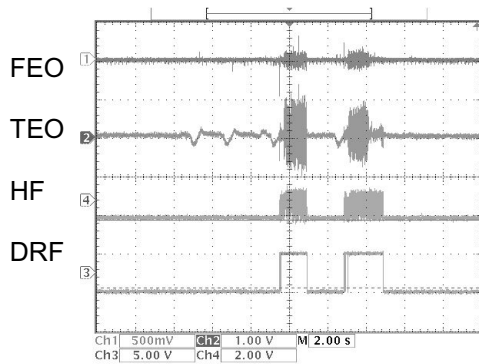

Fig. 2 DISC discrimination, adjustment
- (1) DISC discrimination, adjustment
- * “06 Adj” is displayed, and discrimination of DISC size 8 cm/12 cm, discrimination of DISC reflectance (CD, CD-R/CD-RW), adjustment of focus, tracking offset, and EF balance will be performed. (Adjusted values are not displayed: Refer to Fig. 2, 3)